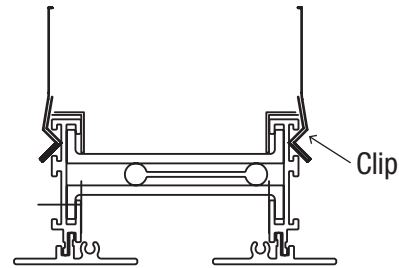

Figure 7 (Step 4A):
- A. The Greenheck model UP can be used with the LAD linear architectural slot diffuser. A plenum can also be fabricated in the field. If the plenum is the UP, there will be clips on the plenum that attach to the LAD linear slot diffuser (see Figure 7).